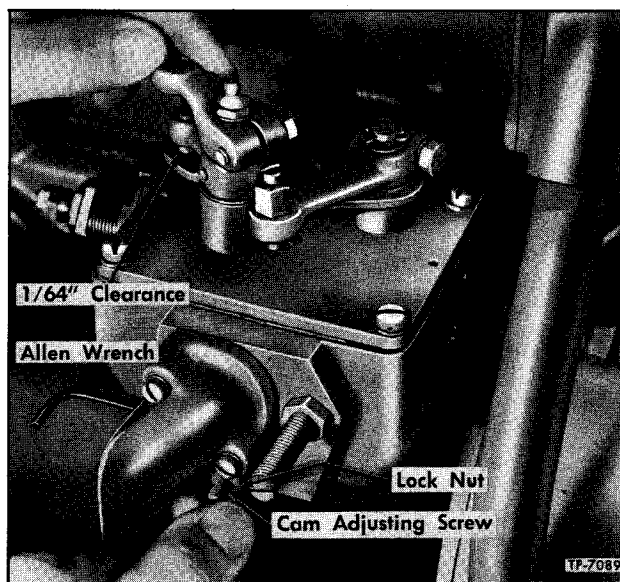

Figure 44—Modulating Cam Adjustment
With control lever in full throttle position (Fig. 44), thread cam adjusting screw (48) outward with finger tips until cam (47) can be felt bottoming against roller (34) on the bottom of the differential lever (35). Thread cam adjusting screw outward an additional $\frac{1}{8}$ turn to provide positive engagement between differential lever roller and cam. After making contact it may be necessary to turn the screw very slightly in or out to produce the final $\frac{1}{64}$ " clearance illustrated in figure 44 which is required after the Allen screw has been tightened. Tighten lock nut (49); also install plugging screw (51).